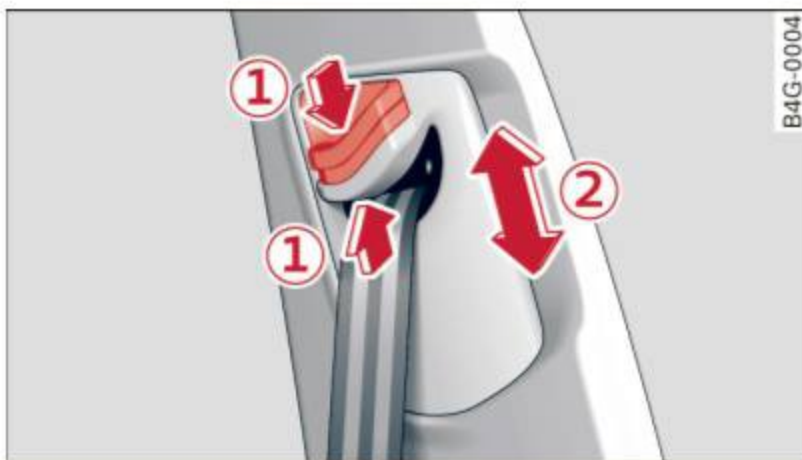

Fig. 152 Safety belt height adjustment for the front seats – loop-around fittings
- ▶ Push the loop-around fittings **up** ⇒ fig. 152 (2), or
- ▶ squeeze together the (1) button, and push the loop-around fittings **down** (2).